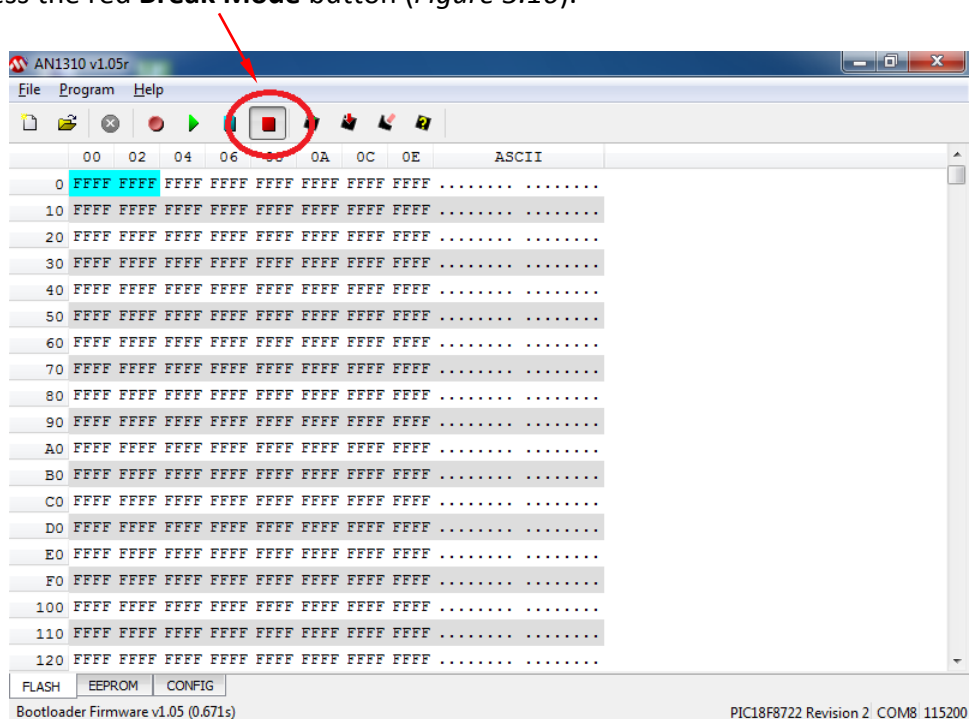

Figure 3.16
5. Press the red **Break Mode** button (Figure 3.16).